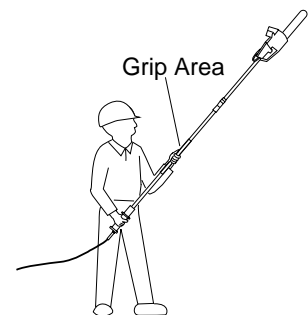

Figure 9 - Designated Grip Areas
2. Use both hands to grip Pole Saw. Use only designated grip areas when operating Pole Saw (see Figure 9). Use firm grip. Thumbs and fingers must wrap around Pole Saw handle and pole.